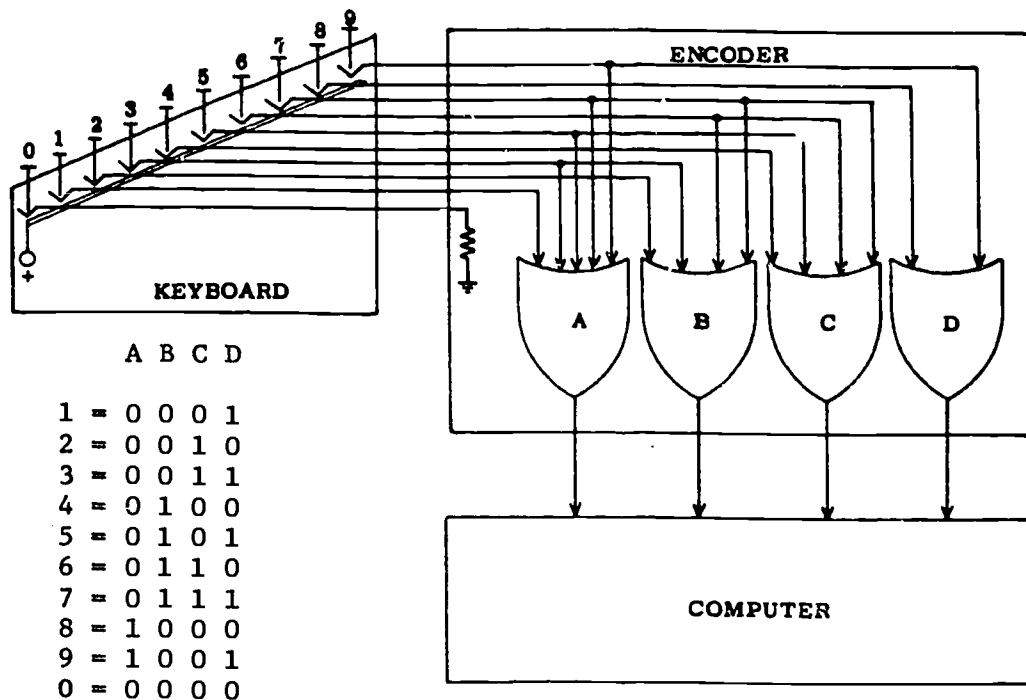

Figure 1-15. Encoder.
Figure 1-15 illustrates a simple encoder. The input to the encoder is a keyboard whereby the operator can insert decimal numbers into the computer. As the keys are depressed, the spring contact moves down and makes contact with the bar with the positive potential applied. The spring contact then passes the positive potential to the encoder. The encoder unit takes the output from the decimal keyboard and converts the decimal number to an equivalent binary number. The computer can then process the binary number as programmed.
1. Use the schematic diagram in figure 1-15. What is the function of this encoder circuit?